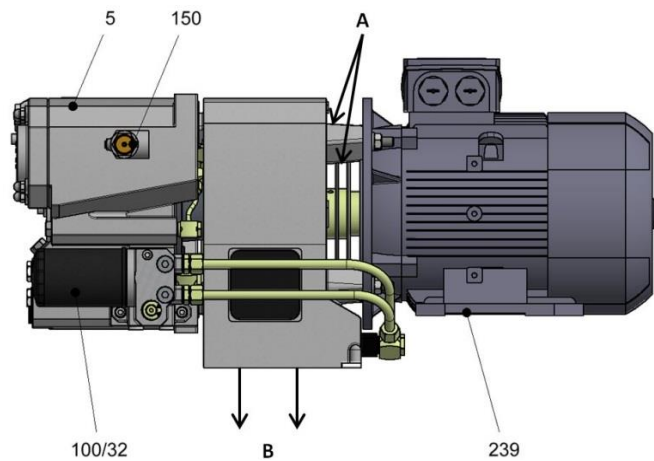

Fig. 7: Cooling air
4.3.3 Minimum pressure valve (Fig. 7: Pos. 150)
4.3.4 Electric motor (Fig. 7: Pos. 239)